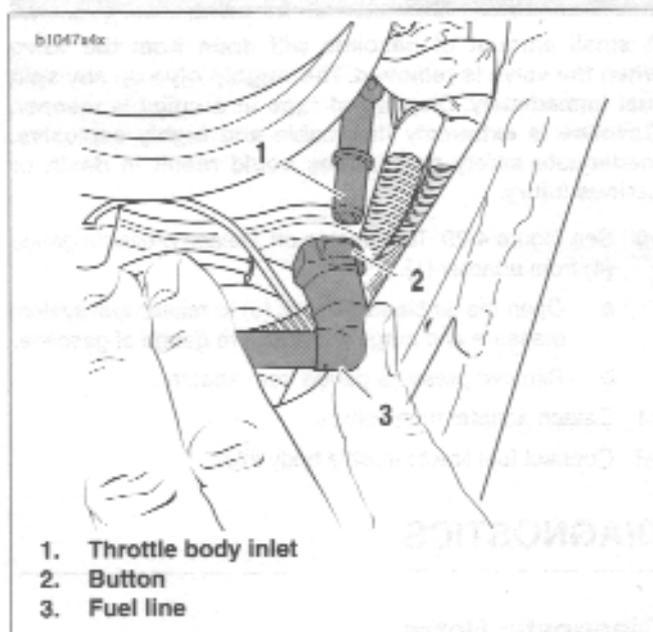

Figure 4-27. Fuel Line
3. See Figure 4-27. Depress button (2) of fuel line connector and disconnect the fuel line (3) from throttle body inlet (1).